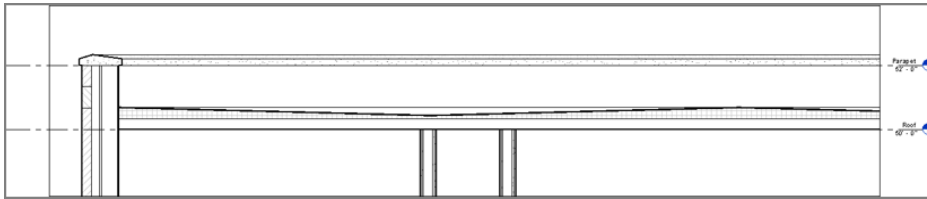

FIGURE 7.19: By adding the points to the roof, you now have an almost perfect section.
8. Adjust the crop region so you're looking only at the roof area, as shown in Figure 7.19. Zoom to fit.